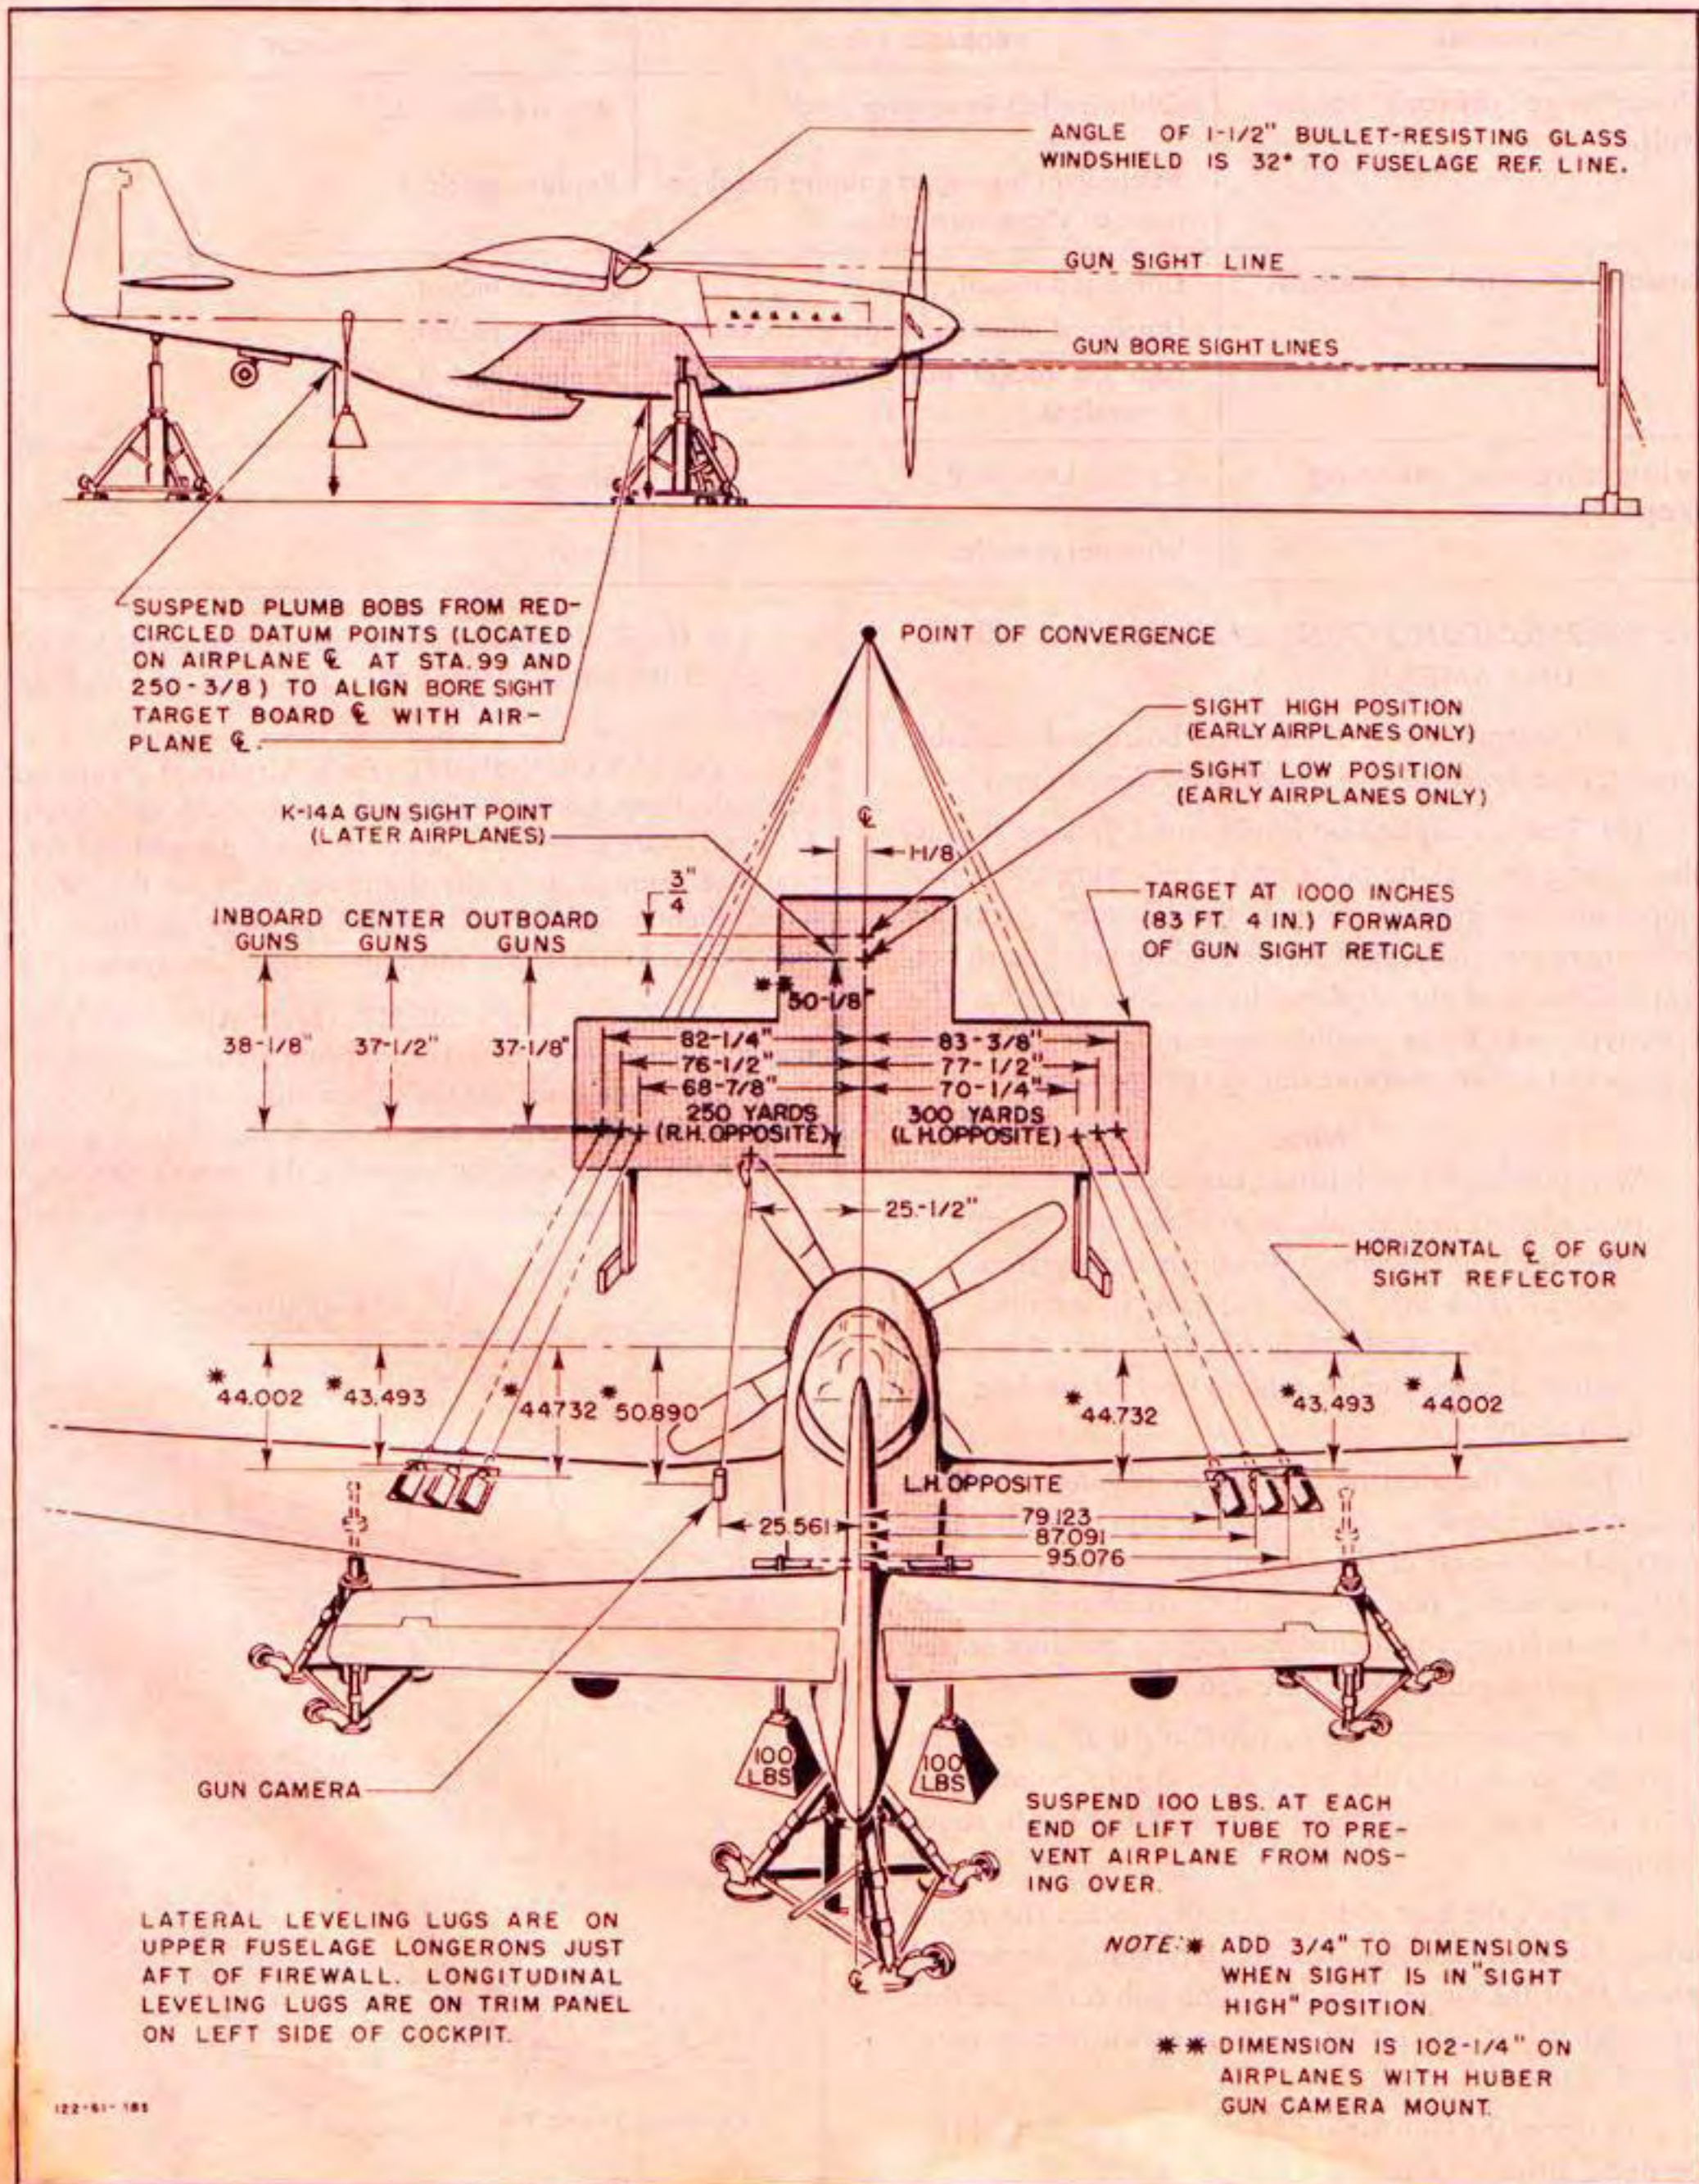

Figure 435—Bore Sighting Diagram
(1) Construct a bore sight target board and a suitable support. (See figure 435 for target board dimensions.)
(2) Position airplane on level ground. Jack up the airplane, using the jacking point under each wing and a jack supporting bar inserted through the lift tube. Jacks are necessary to take the weight off the landing gear and so prevent deflection of the airplane during bore sighting. Use screw-type jacks when possible, since hydraulic jacks tend to creep and require checking during the operation.
(4) Attach plumb bobs to two No. 10-32 screws and insert the screws into the red-circled datum points. (See figure 435.) Suspend the plumb bobs about one inch above the ground.
(5) Place the bore sight target 1000 inches (83 feet 4 inches) forward of the gun sight reticle, aligning the vertical centerline of the target with the plumb bob cords. See that the target is leveled laterally or the guns will not be bore-sighted accurately.